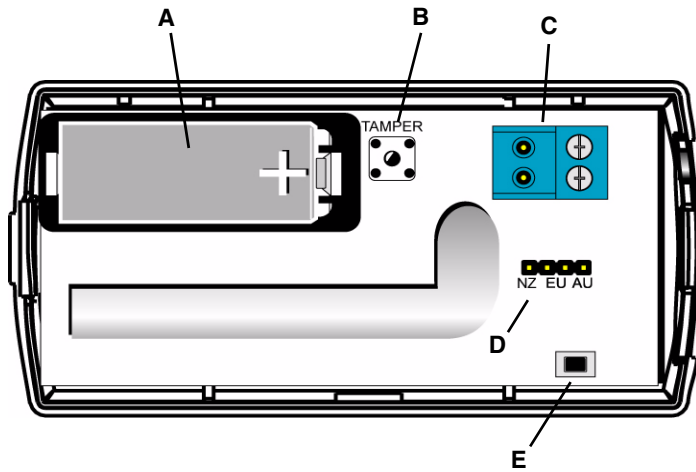

Figure 1 ES1501/EN1501-XL Components
1. Place the selection jumper included in the accessory pack on the appropriate frequency band selection pins (Figure 1).